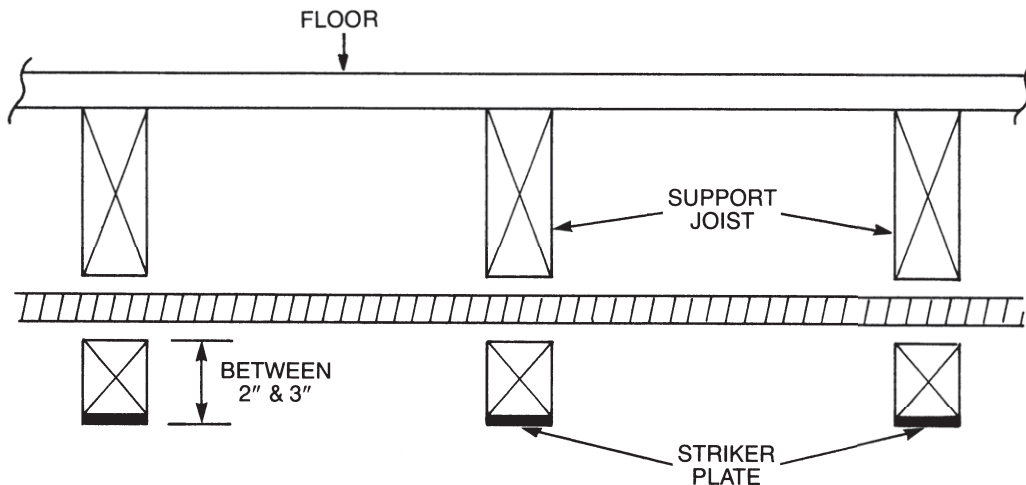

Figure: 4-8
- b. At support points and points of penetration 2 to 3 inches from any edge of stud, joist, plate, etc. shielding is required throughout area of support. Use a quarter striker plate in these locations. Figure: 4-8.